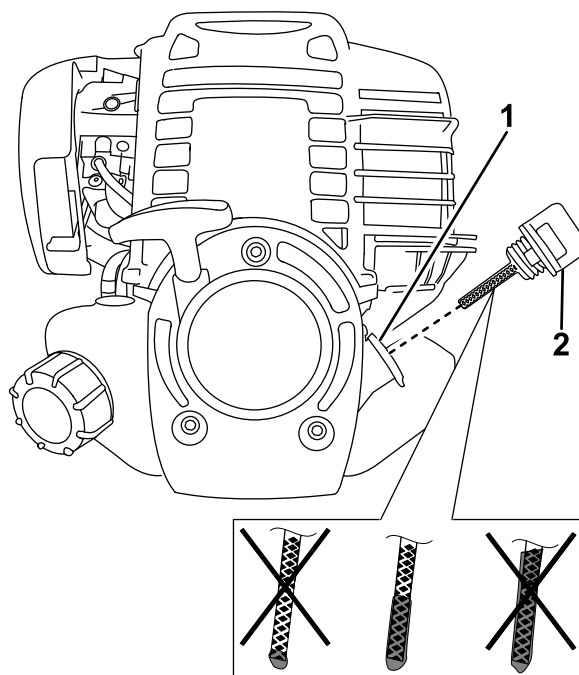

Figure 28
1. Remove the oil cap/dipstick (Figure 28).
2. Slowly pour approximately 80% of the specified amount of oil into the fill port (Figure 28).
3. Add additional oil to bring the oil level to the proper fill amount; refer to (Figure 28).
4. Install the oil cap/dipstick (Figure 28).